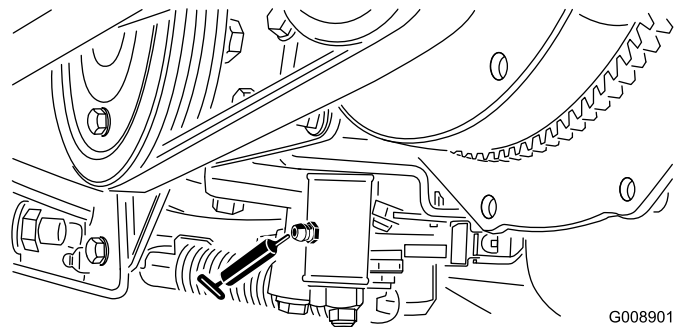

Figure 46
- Neutral adjust mechanism (Figure 46)